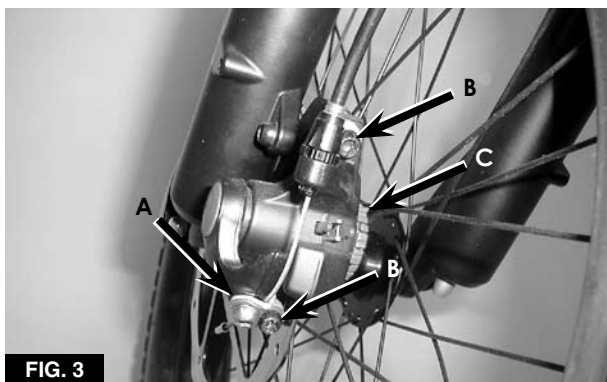
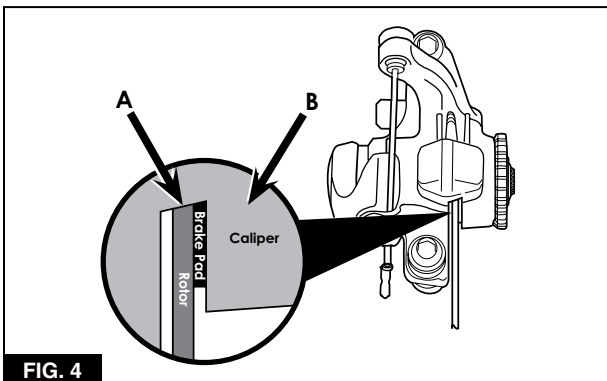

FIG. 3
FIG. 4
3. Turn out the anchor bolt (A, **Figure 3**), and release the inner wire from the pinch mechanism.
8. Use the fourth-hand tool to remove the slack from the cable, and torque the brake caliper anchor bolt (A, **Figure 3**) to the specification in Table 5.
9. Loosen the CPS bolts (B, **Figure 3**) so the caliper can move freely.
10. Turn the inboard pad adjuster (C, **Figure 3**) clockwise (inward toward the caliper) until the brake disc (A, **Figure 4**) is centered within the caliper body (B). The caliper is properly adjusted if the space on each side of the brake disc is the same.
12. Pull in and hold the brake lever. Torque the CPS bolts (B, **Figure 3**) to the specification in Table 5 while holding the brake lever in.
- b. Turn out the anchor bolt (A, **Figure 3**), and release the inner wire from the pinch mechanism.